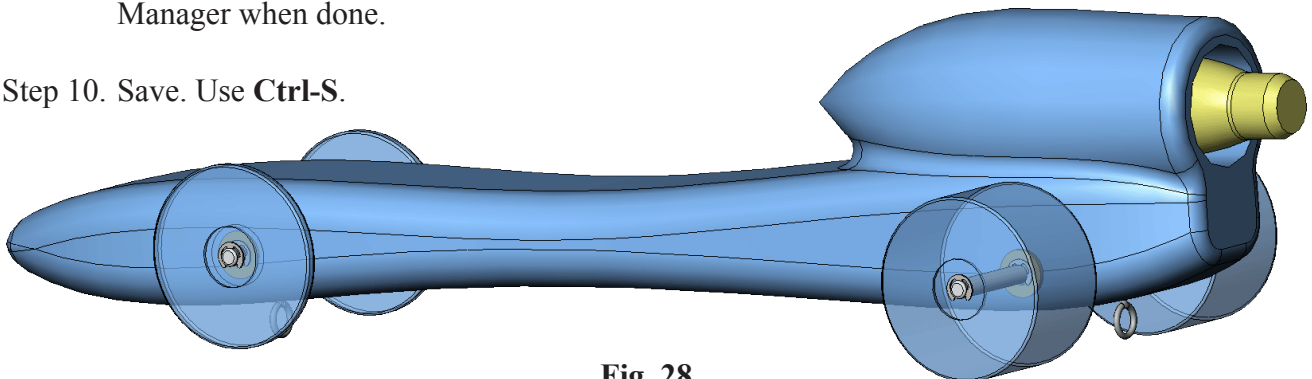

Fig. 28
Step 7. The cartridge should extend out the rear of the body, **Fig. 28**. If in opposite direction, click **Flip** **Mate Alignment**  in the Mate pop-up, **Fig. 27**.